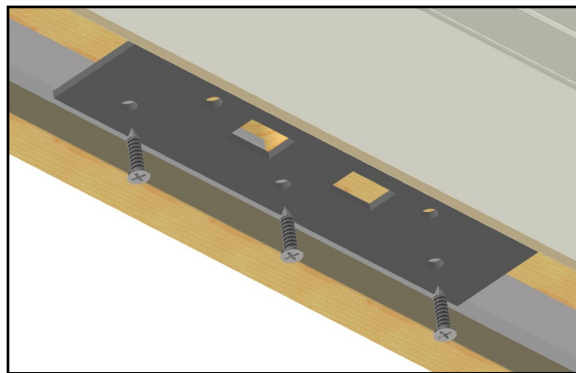

Figure 11
- Install the head strike plate with the 3 holes aligning with the aluminum on the head inside stop. Pre-drill with 1/8" bit and use the head strike plate screws to secure head strike through the aluminum. (Fig. 11)